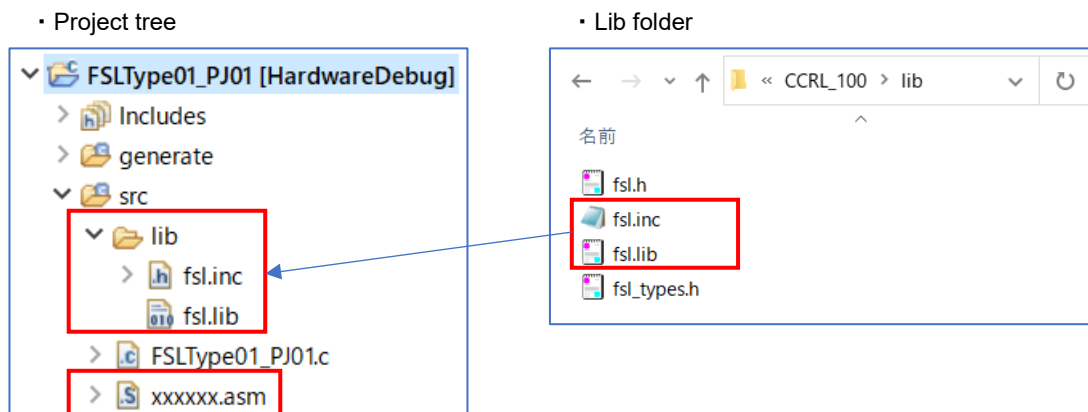

Figure 7-20. Specifying the Source and Include Files (CC-RL)
- CC-RL: Register user program file (“xxxxxx.asm”), the flash self-programming library files “fsl.inc” and “fsl.lib” in the “src” folder output by e² studio. (Figure 7-20)